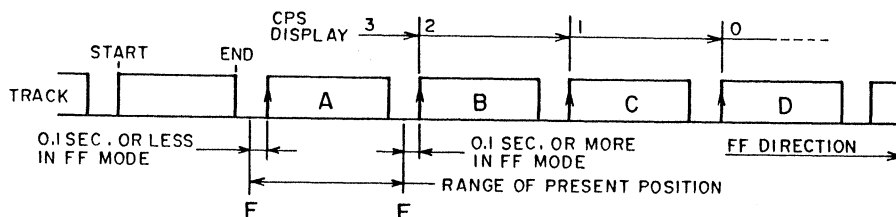

Fig.8-2 CPS_{FF} Example
In the CPS_{FF} mode the start of each track is detected, and the CPS counter is reduced by one each time. However, no track starts are detected within the first 0.1 seconds after the start of CPS_{FF}. In addition, if CPS_{FF} is started from the middle of a track, that track is not counted. In figure 8-2 the current position is between E and F, and if the third track (D) is selected, the CPS_{FF} mode will detect each track start, and